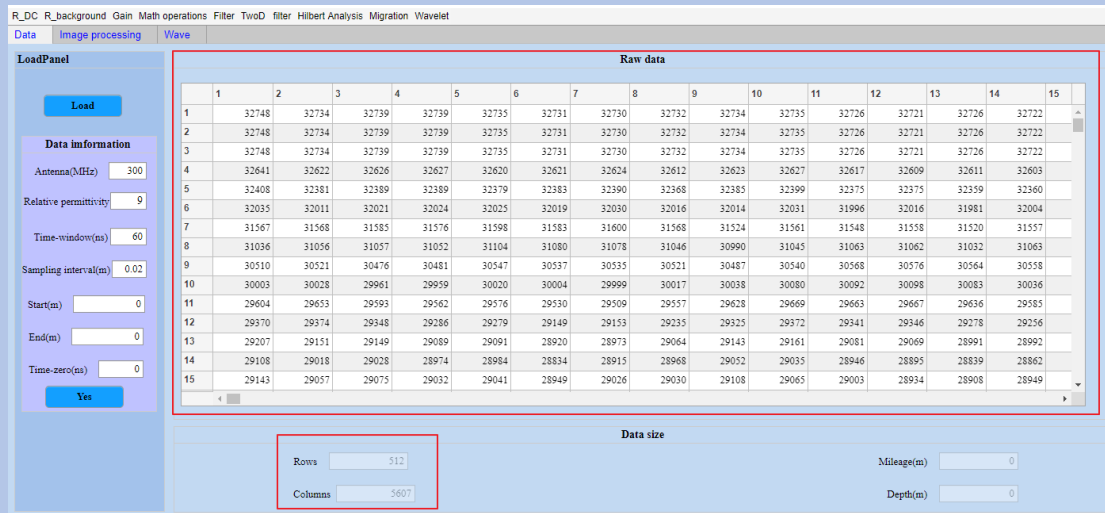

Figure 8.1 Case1 loading data
(1) To read in the data, as shown in Figure 8-1, we can see that the data is sampled at 512 and has 5607 traces.